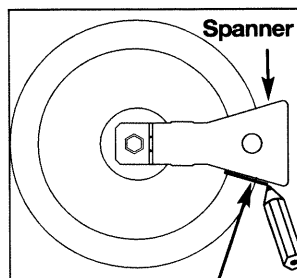

Fig. 3
- ⇨ With a pencil draw a line on the hearth plate as indicated (fig. 3).